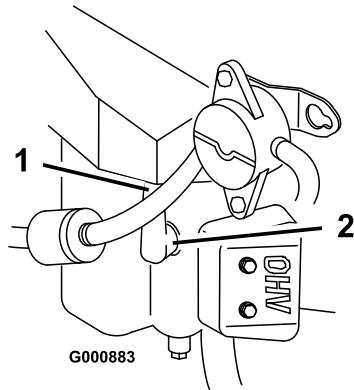

Figure 31
3. Pull the wire(s) off of the spark plug(s) (Figure 31). Clean around the spark plug(s) to prevent dirt from falling into the engine and potentially causing damage.
3. Push the wire(s) onto the spark plug(s) (Figure 31).